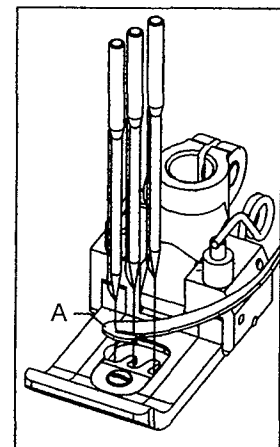

Fig 11
On return, wiper hook (A) must catch all needle threads (Fig11) and draw them into leaf spring (B) to be clamped.